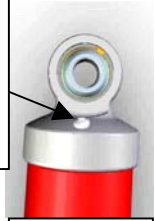

Figure 1
2. Depressurize shock by **SLOWLY** loosening the hyper-screw located on the cap. When all pressure is relieved, completely remove the screw. See Figure 1.